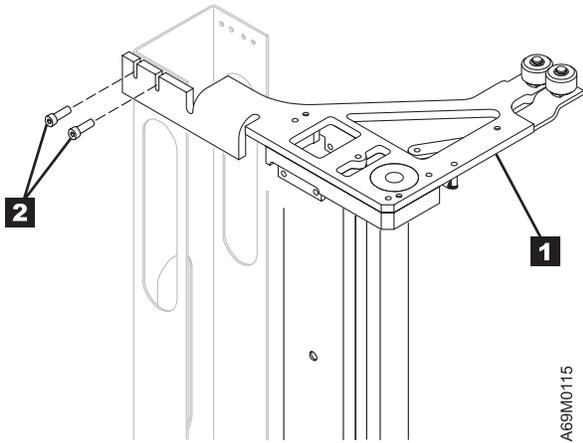

Figure 161. Y-Axis Mast – Top
6. Refer to Figure 161 on page 669 and remove the screws **2** holding the top portion of the Y-axis mast assembly **1** to the top rail assembly.